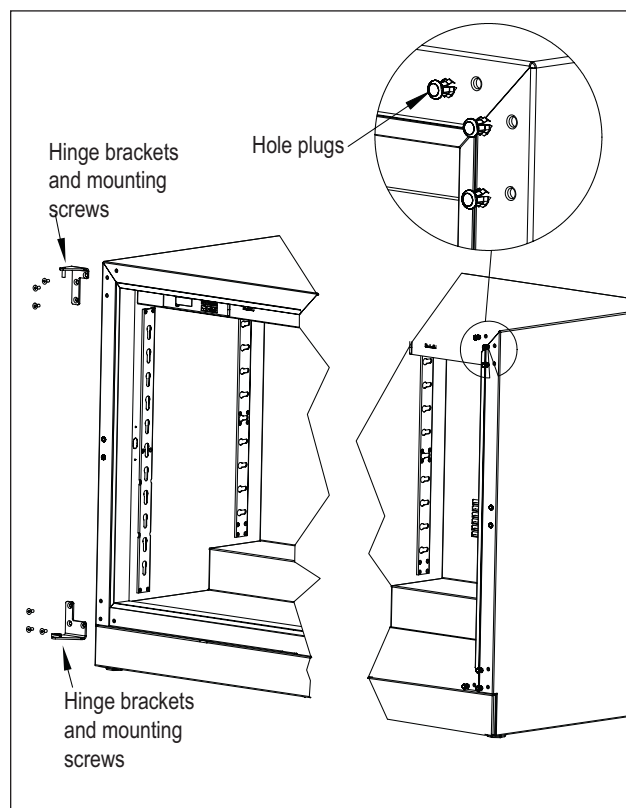

Figure 4. Hinge Removal
3. Remove top and bottom hinge brackets. Retain screws for later use. See Figure 4.
4. Remove the hole plugs from the top and bottom hinge bracket mounting holes (Figure 4). Place the plugs in the holes on the opposite side made vacant by removing the hinges in step 3.